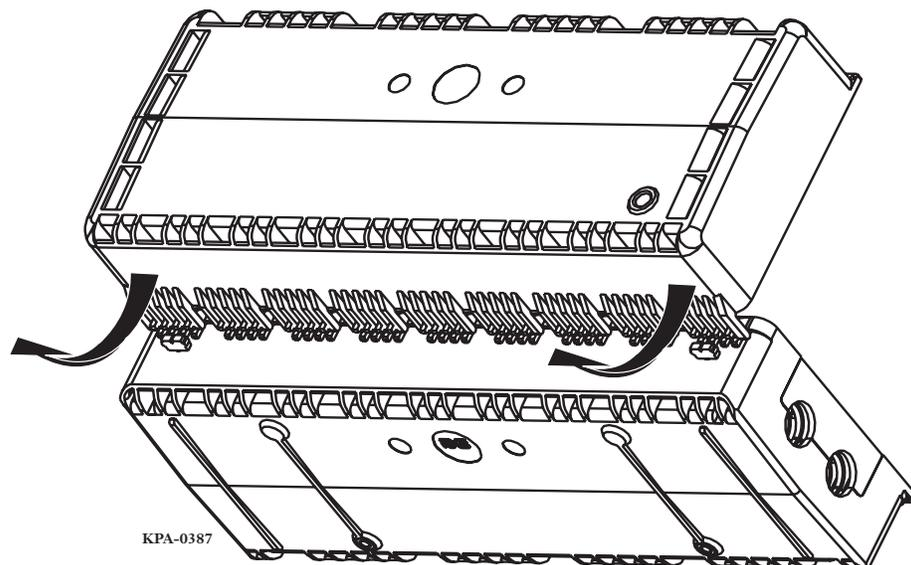

Figure 5 — Pull Cover Away from Base
- Step 3** Position the cover at a 90-degree angle from the base. Push down on the hinge pins until they are free of the hinges in the base. Pull the cover toward you and lift it away from the terminal (Figure 5).